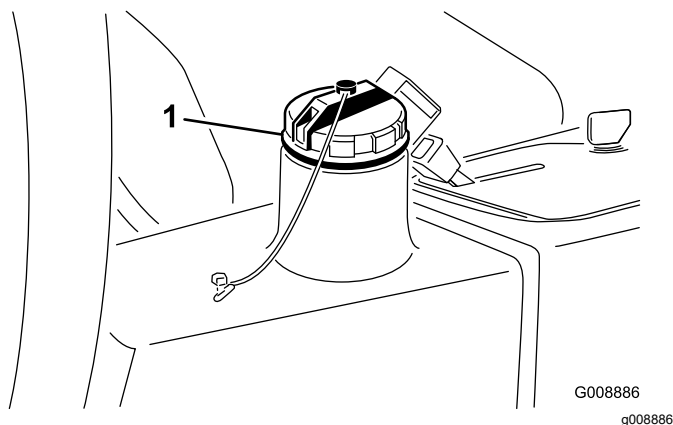

Figure 74
2. Clean the area around the filler neck and cap of the hydraulic-fluid tank (Figure 74) and remove the cap.